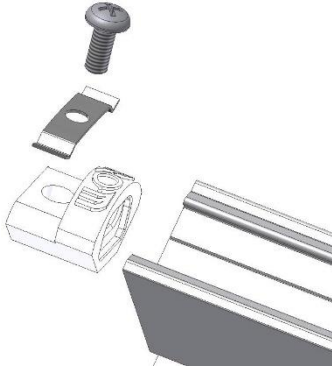
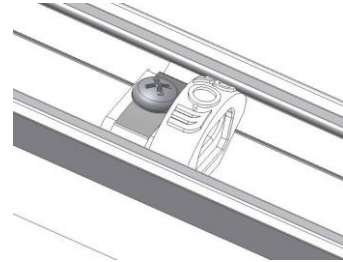

Figure 1
Figure 1a
1. Attach the end block (one without wiring) to the aluminum extrusion using the securing clip and M4 screw. See Figure 1 for layout arrangement of parts and Figure 1a for installed.